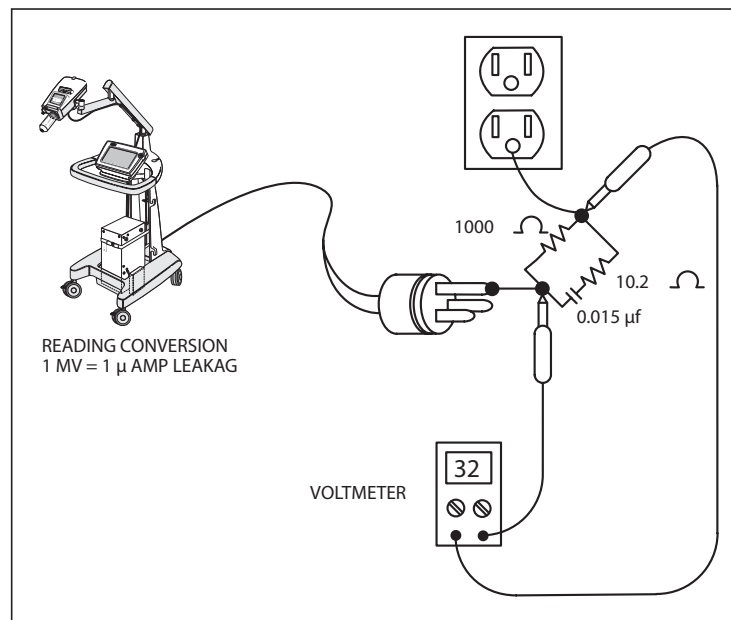

Figure 6-8-1 Leakage Test Set-Up
1. Check the electrical leakage meter, or use an AC voltmeter with the attenuation network shown in Figure 6-8-1. Check the leakage through the power cord ground with ground open. The leakage should be less than 500 microamperes. If higher, check for the cause and repair.